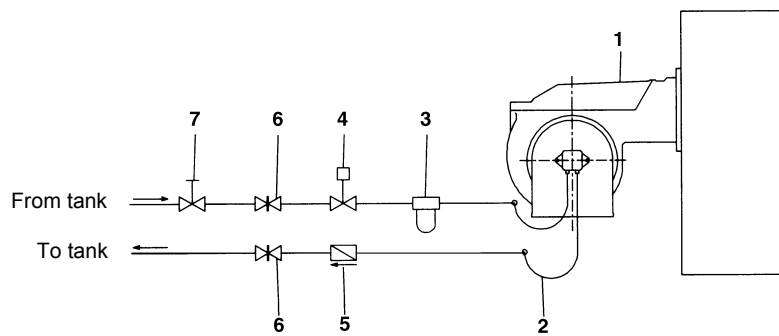

Fig. 7 - Double-pipe system
**NOTE:** in plants where gravity or ring feed systems are provided, install an automatic interception device (see n. 4 - Fig. 7).